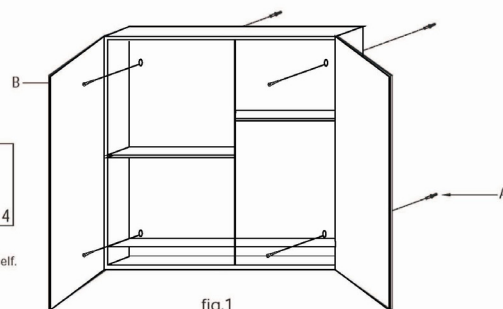

fig.1
6. Place a wall plug (A) in each hole and tap in with a hammer until flush with the wall.
8. Using the screws (B) provided, fix the cabinet to the wall. Tighten all screws to secure the cabinet: See Fig. 1.